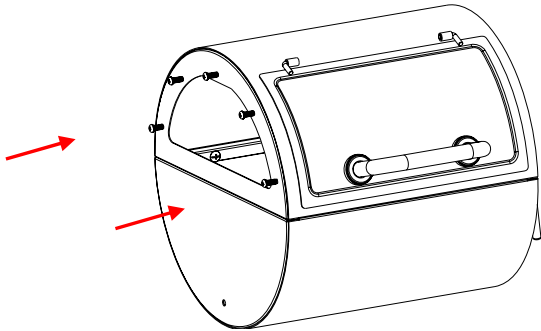
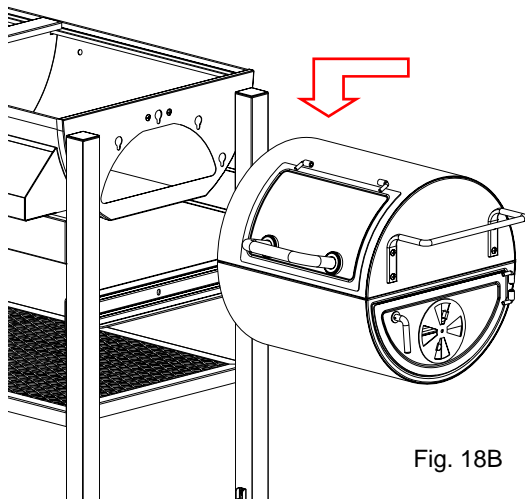
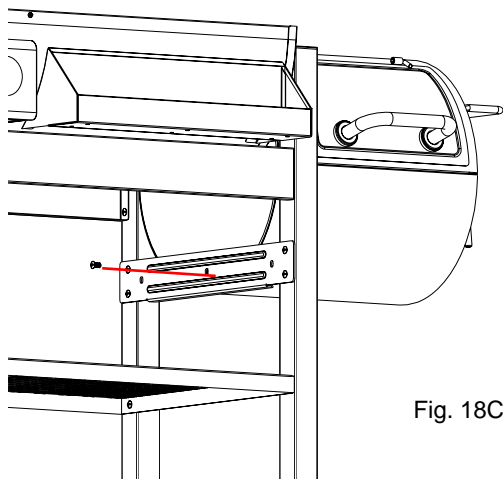

Fig. 18A
Fig. 18B
Fig. 18C
Refer to Fig. 18A and screw (5) M6x15 bolts into the (5) threaded holes in the side of the Firebox, allowing about a 1/4" of an inch of the bolt head to remain sticking out. Refer to Fig. 18B and place the Firebox in position so that the (5) bolt heads can fit into the KEYHOLES, allow the Firebox to move down, so the bolts slide into place in the slots and the bottom of the Firebox rests on the Ledge of the Bracket. Refer to Fig.18C and fasten (1) M6x15 bolt through the Bracket and into the Firebox to secure it in place. Now tighten the (5) bolts in the Keyhole slots which will secure the Firebox to the Grill.